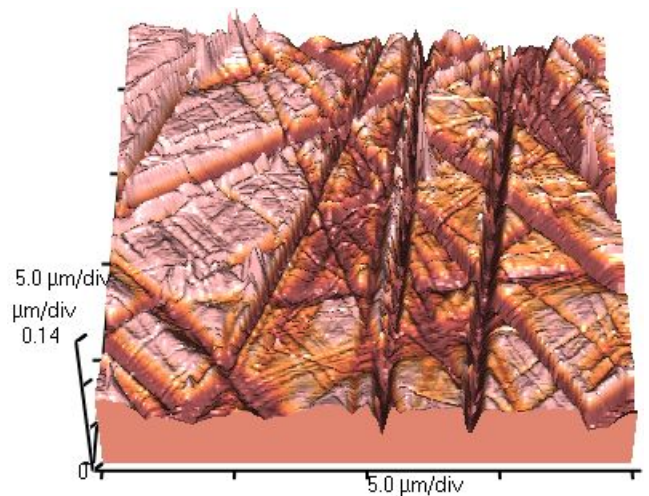

Figure 3: AFM image of a glass surface. The scanned size (x,y,z) is 20 μm x 20 μm x 420 nm. Image is Public Domain (Wikipedia)
- Create topographical images of surfaces like in *Figure 3*.